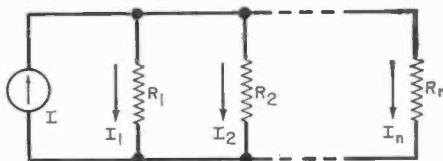

Fig. 19
**B. Current Divider.** An example of a current divider is shown in Fig. 19. Since the resistors are connected in parallel and the same voltage is across each, the current in  $R_n$  is:  $I_n = G_n I / (G_1 + G_2 + \dots + G_n)$ . For two resistors,  $R_1$  and  $R_2$ , in parallel:  $I_1 = G_1 I / (G_1 + G_2) = R_2 I / (R_1 + R_2)$
**Ex. 18.** In Fig. 19, assume  $n = 2$ ,  $R_1 = 15$  ohms,  $R_2 = 10$  ohms, and  $I = 10$  A. Find the currents in  $R_1$  and  $R_2$ . Sol.  $I_1 = R_2 I / (R_1 + R_2) = 10 \times 10 / (15 + 10) = 4$  A.  $I_2 = R_1 I / (R_1 + R_2) = 15 \times 10 / (15 + 10) = 6$  A.